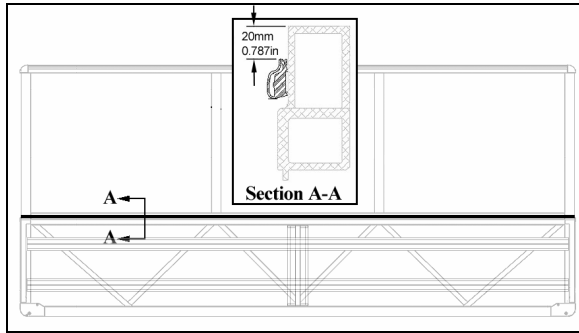
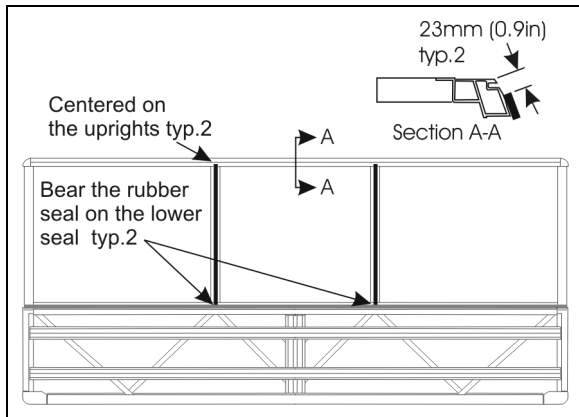

FIGURE 50 : FACE FIXED WINDOWS - RUBBER SEAL INSTALLATION
FIGURE 51 : FACE FIXED WINDOWS - RUBBER SEAL INSTALLATION
2. If necessary, install the rubber seals as per FIGURE 50 & FIGURE 51 . Press the seal against the structure with a roller.